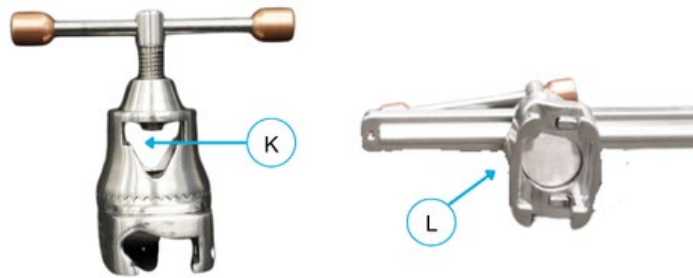

Figure 10-16: Motor Control Box Clark Clamp Side View, and Facing Out
- Attach through the triangular hole (K) on the Clark Clamp (**Figure 10-16**)
- The flat edge of the Clark Clamp faces away from the end of the OR bed (L) (**Figure 10-16**)